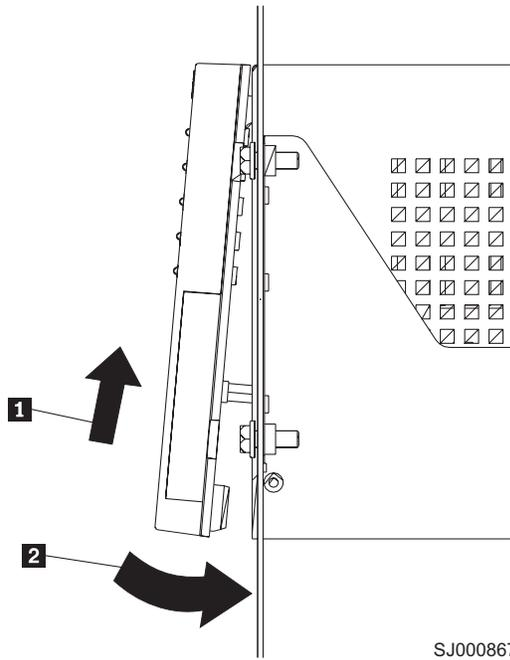

Figure 16. Replacing the controller-unit bezel (machine types 3552 [FASt500] and 1742 [DS4400 and DS4500])
4. To replace the bezel, slide the top edge under the lip on the chassis **1**. Then push the bezel bottom until the pins snap into the mounting holes **2**, as shown in Figure 16 on page 54.